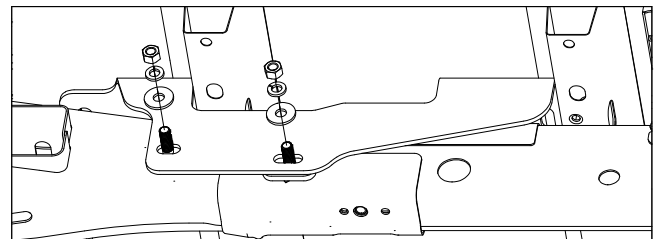

Figure D3: View of driver side wheel well.
3. **Install side plates.** Each side plate (driver and passenger side) will install over the carriage bolts previously placed into the frame. Slowly guide the side plate over the carriage bolts. Attach each plate (driver side shown below) with two 1/2" washers, 1/2" lock washers, and 1/2" finish nuts. See Figure D3. Do not fully tighten at this time. (Hardware should be hand tightened.)